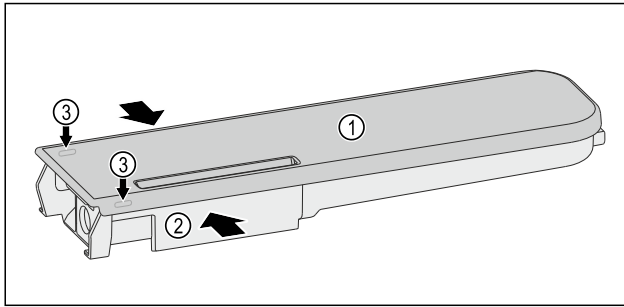

Fig. 123
- Push the water tanks Fig. 123 (2) together, leverage the cover Fig. 123 (1) carefully over the latching tabs Fig. 123 (3) and lift it up.
- Move the cover Fig. 123 (1) slightly forwards and back, and remove to the top.